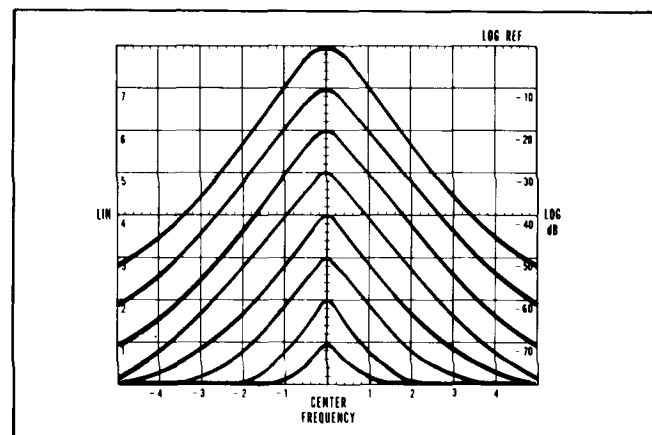

Figure 4-2. Vertical Gain Adjustment
- g. Adjust the LOG REF LEVEL controls so the maximum signal amplitude is exactly on the -70 dB graticule line. Rotate LOG REF LEVEL control seven steps in the clockwise direction. The amplitude of the signal should increase in increments of one division per 10-dB step (see Figure 4-2).
- h. Adjust VERTICAL GAIN to place maximum signal amplitude exactly on LOG REF (top) graticule line (Figure 4-2). Repeat steps g and h to obtain optimum adjustment of VERTICAL GAIN (increments as close to one division per 10 dB step as possible).